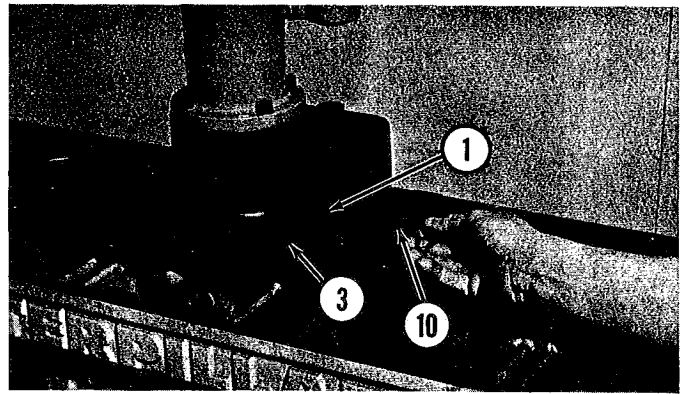

Fig. 16
13. Lift the cutter of the cylinder block and tighten knob (4) again. Loosen screw (3) and remove cutter (1) with hook (10) as shown in Figure 16. After removing the tool, clean the cutter plate slot thoroughly.